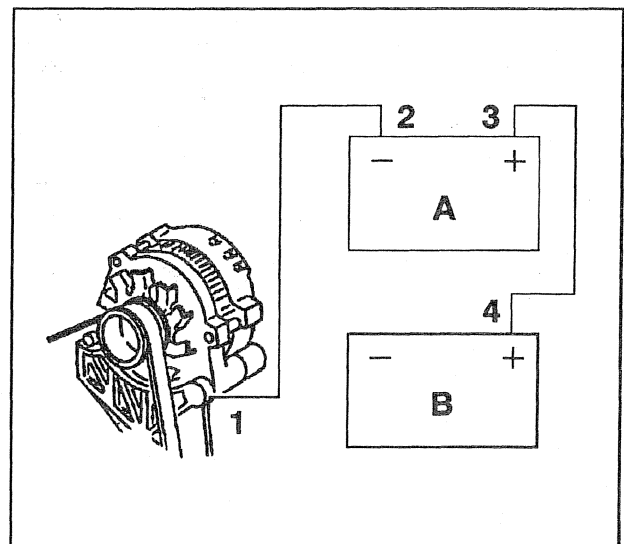

Figure 10—Removing Jumper Cables
8. Reverse steps 4, 5, and 6 exactly when removing the jumper cables. The negative cable must be disconnected from the engine that was jump started first (figure 10).